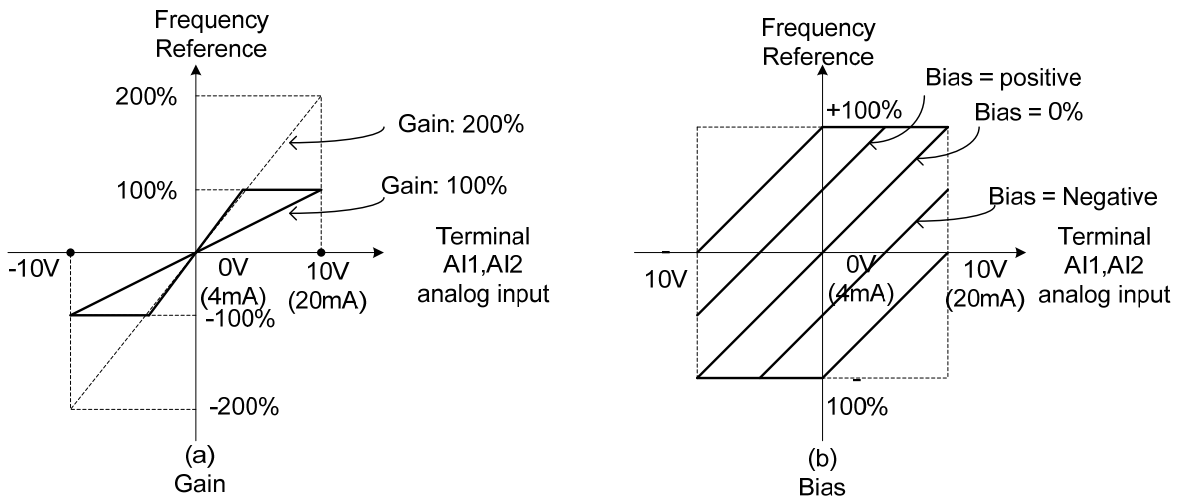

Figure 4.3.36 Gain and bias operations (for frequency reference signal)
- For the gain and bias settings, refer to Figure 4.3.36.